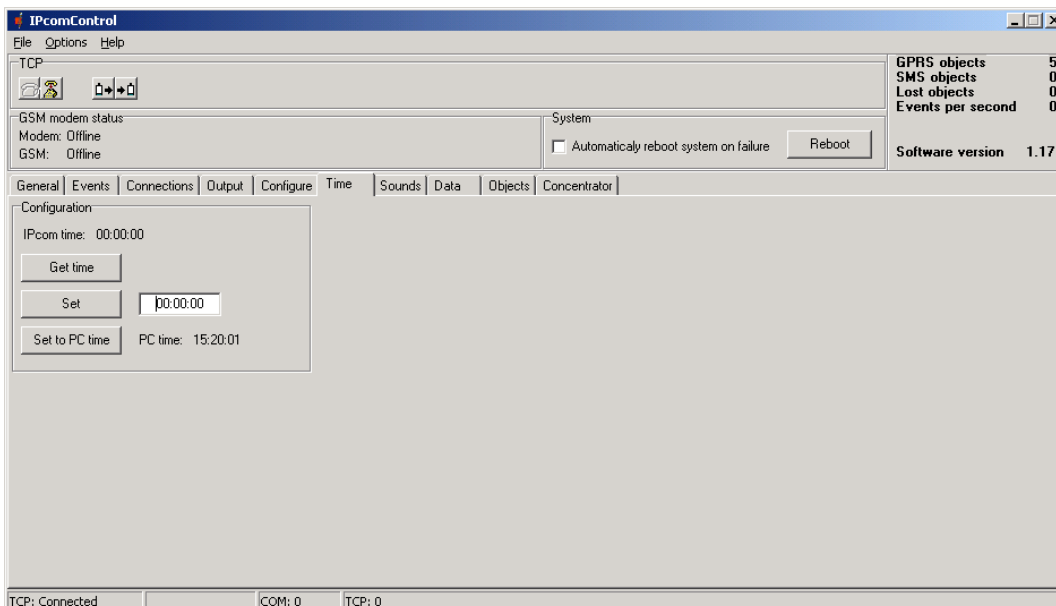

Figure 16.
8.14 In the **Time** tab (Fig. 16) set the Receiver's clock.